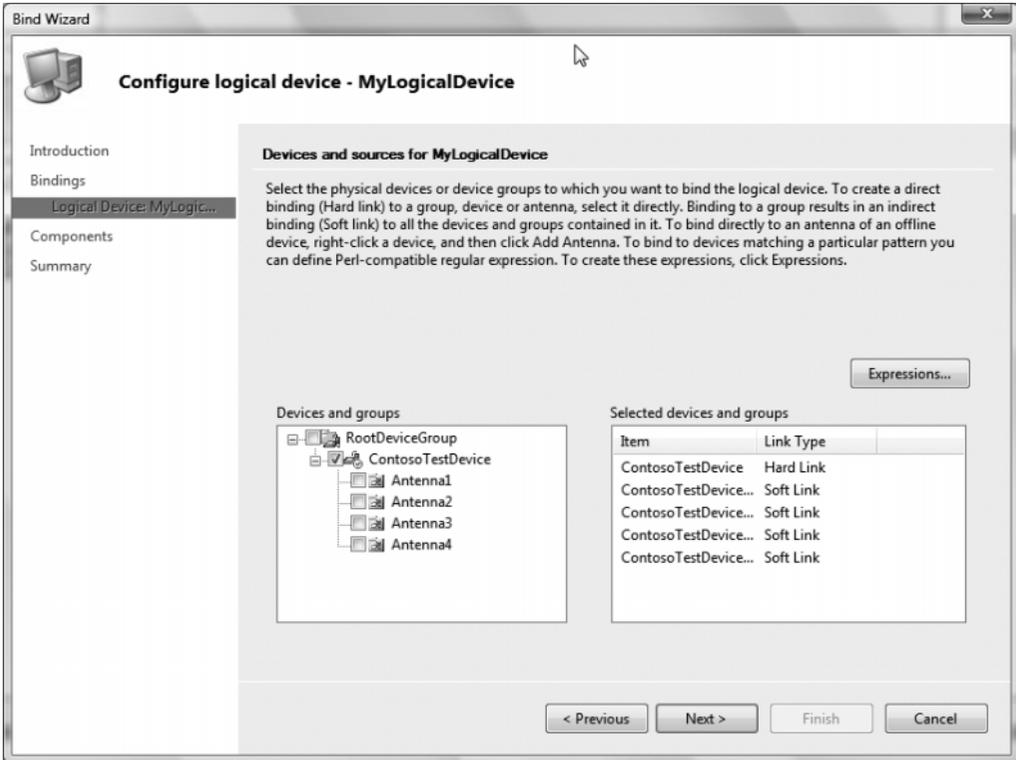

Figure 3-12. *Selecting devices and sources*
9. From the “Configure logical device – MyLogicalDevice” dialog, expand the ContosoTestDevice node to display the available sources. Click the ContosoTestDevice check box to bind it (and its child sources) to this process, as shown in Figure 3-12. Click Next.